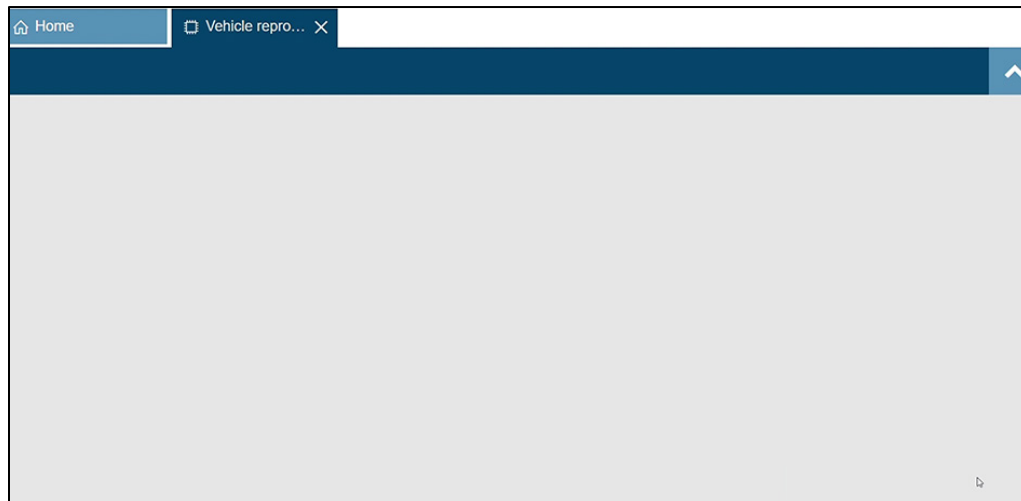

Figure 12
- The screen will be blank for approximately 1 minute (Figure 12).